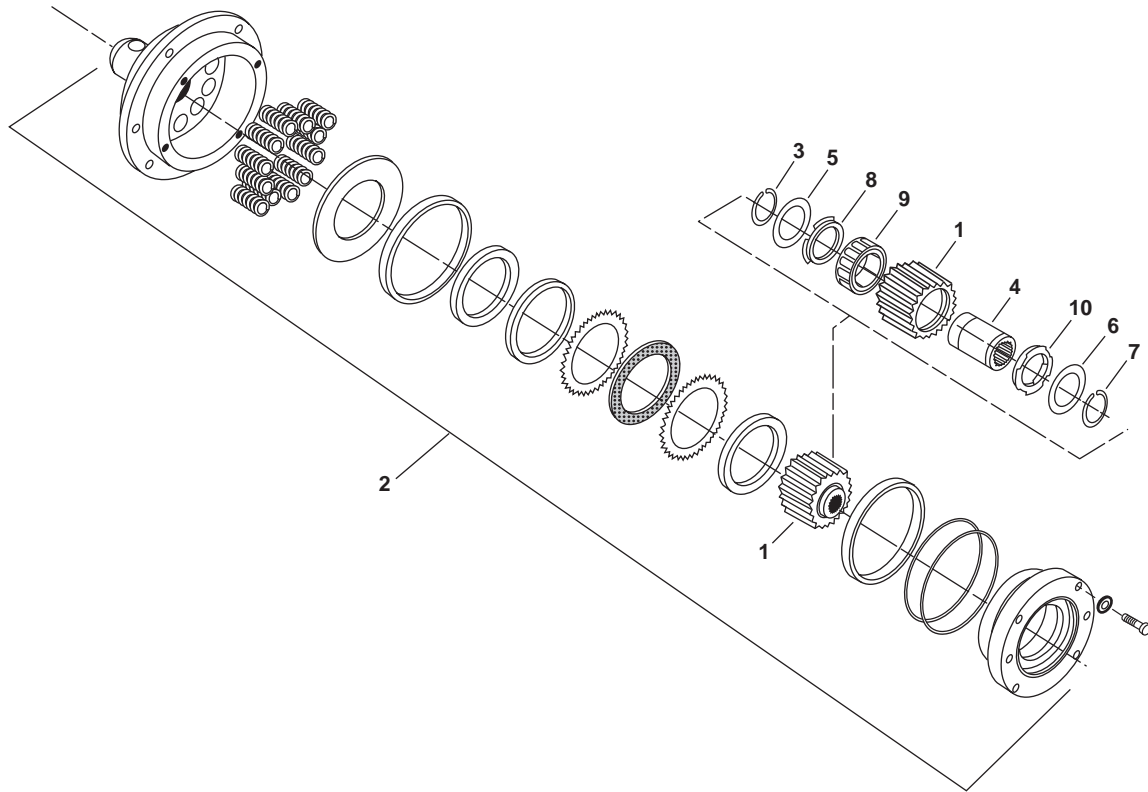

Figure 1. Brake Clutch
1. Remove the clutch brake outer race (figure 1, item 1) from the brake assembly (figure 1, item 2) by pulling it straight out.
2. Remove the retaining ring (figure 1, item 3) from the inner race (figure 1, item 4). Discard the retaining ring.
3. Remove the sprag bushing retainer (figure 1, item 5) from the inner race (figure 1, item 4).
4. Remove the inner race (figure 1, item 4), the sprag bushing retainer (figure 1, item 6), and the retaining ring (figure 1, item 7) from the clutch brake outer race (figure 1, item 1) as one unit.
5. Remove the sprag bushing retainer (figure 1, item 6) from the inner race (figure 1, item 4).
6. Remove the retaining ring (figure 1, item 7) from the inner race (figure 1, item 4). Discard the retaining ring.
7. Using a drift pin and hammer, remove the sprag bushing (figure 1, item 8) from the clutch brake outer race (figure 1, item 1).
8. Remove the sprag clutch (figure 1, item 9) from the clutch brake outer race (figure 1, item 1).
9. Using a drift pin and hammer, remove the sprag bushing (figure 1, item 10) from the clutch brake outer race (figure 1, item 1).
1. Using an arbor press, install the sprag bushing (figure 1, item 10) into the clutch brake outer race (figure 1, item 1). Ensure that the bushing is against the shoulder of the clutch brake.
2. Turn the clutch brake outer race (figure 1, item 1) over and install the sprag clutch (figure 1, item 9).
3. Using an arbor press, install the sprag bushing (figure 1, item 8) into the clutch brake outer race (figure 1, item 1). Ensure that the bushing is against the shoulder of the clutch brake.
4. Install the sprag bushing retainer (figure 1, item 6) on the inner race (figure 1, item 4).
5. Install the new retaining ring (figure 1, item 7) on the inner race (figure 1, item 4).
6. Install the inner race (figure 1, item 4) through the sprag bushing (figure 1, item 8), the sprag clutch (figure 1, item 9), and the sprag bushing (figure 1, item 10).
7. Turn the clutch brake outer race (figure 1, item 1) over and install the sprag bushing retainer (figure 1, item 5) on the inner race (figure 1, item 4).
8. Install the new retaining ring (figure 1, item 3) on the inner race (figure 1, item 4).